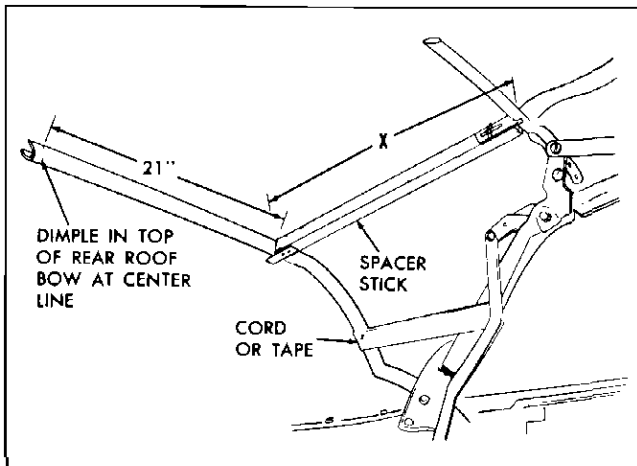

Fig. 7-25 Installation of Spacer Stick
11. Lock top to windshield header. Install radius end of each adjustable spacer stick to fit against center roof bow. Install opposite end of spacer stick so that metal plate fits under rear roof bow (Fig. 7-25). Spacer sticks should be installed along inboard edge of side stay pad or approximately 21" outboard from centerline dimple of rear roof bow (Fig. 7-25). While exerting rearward pressure on rear bow to draw side stay pads taut, extend spacer sticks until they fit snug between center bow and rear roof bow, then tighten wing nuts.
12. Temporarily tie or tape rear bow to rear side roof rails (Fig. 7-25). Detach side stay pads and back curtain with integral quarter stay pads from rear bow.
1. If new top is being installed but it was impossible to perform step 11 of removal procedure, preset spacer sticks to shortest length and install between center and rear roof bow (Fig. 7-25). Adjust sticks so that dimension "X" in Fig. 7-25 (measured along spacer stick from front upper rolled edge of rear roof bow to center of center bow) is approximately 16 $\frac{1}{4}$ ". Tie or tape rear bow to rear side roof rails.